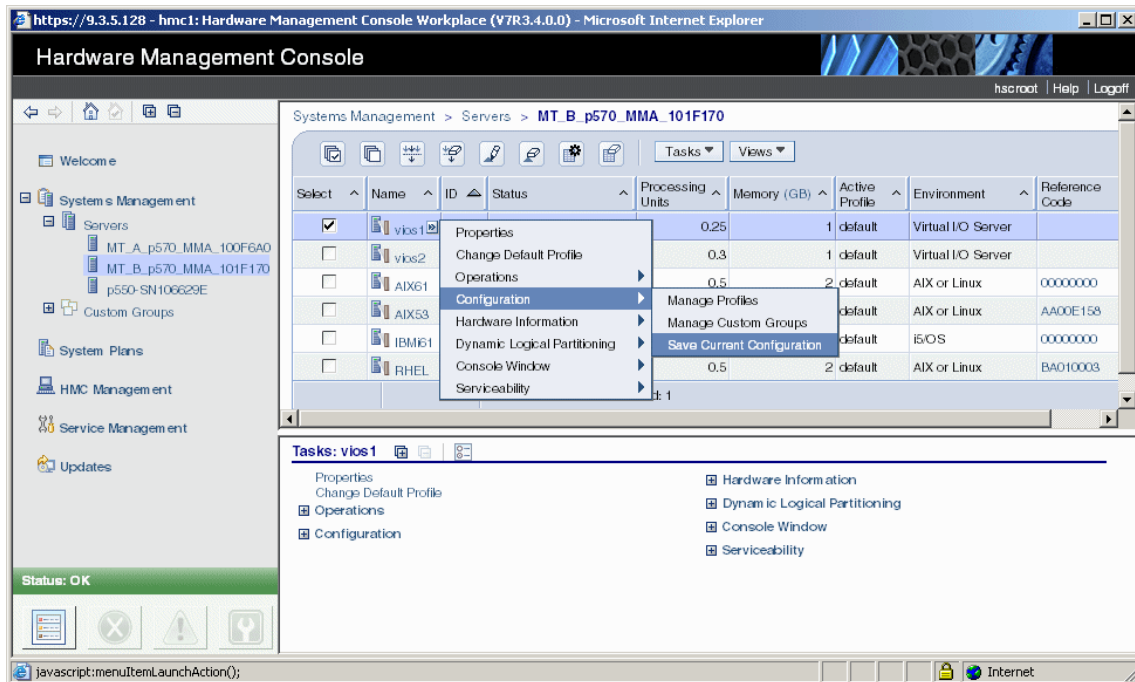

Figure 2-21 Save the Virtual I/O Server partition configuration.
- f. Remember to update the profile of the Virtual I/O Server partition for the change to be reflected across restarts of the partitions. Alternatively, use the **Configuration** → **Save Current Configuration** option to save the changes to the new profile. See Figure 2-21.